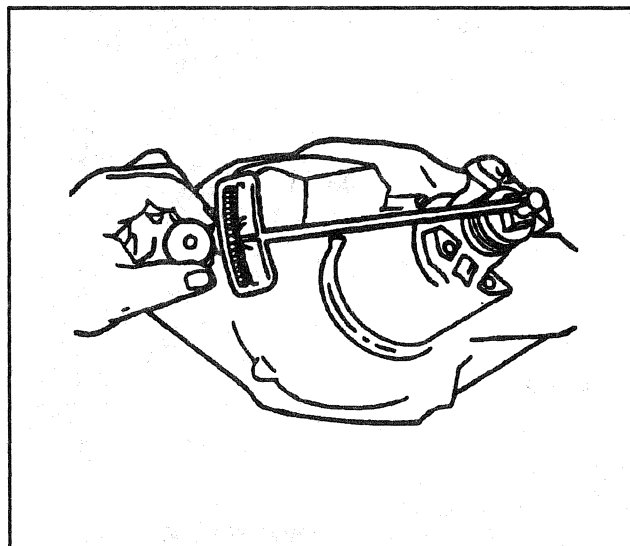

Figure 5—Checking Pinion Preload
- Drive pinion bearing preload and record for reference upon reassembly (Figure 5).